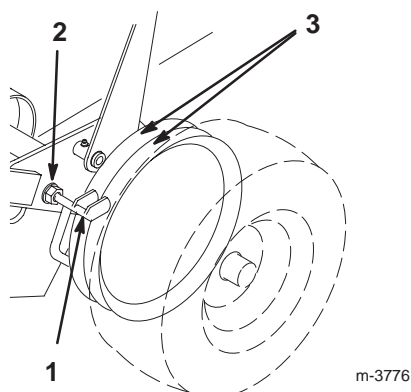

Figure 44
1. Loosen the locknut that holds the scraper to the engine frame (Fig. 44).
2. Rotate the scraper until it aligns with the center of the pulley grooves (Fig. 44).
3. Tighten the locknut (Fig. 44).